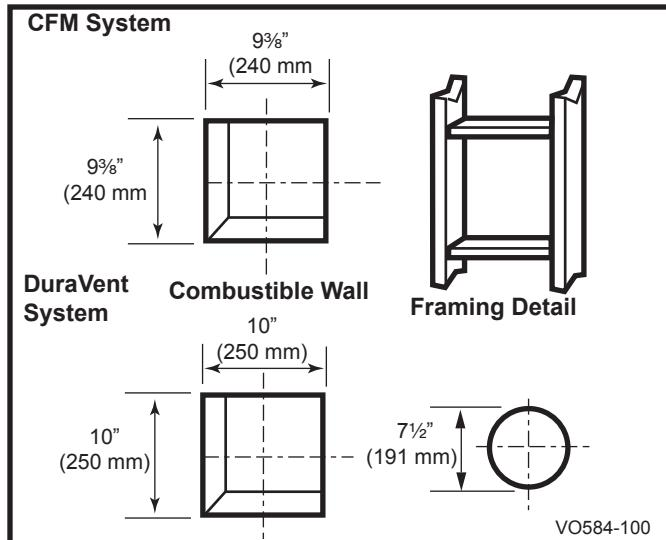

Fig. 22 Locate vent opening.
- Locate the vent opening on the wall. Refer to Figure 5, Page 6, to determine the opening centerline. It may be necessary to first position the stove and measure to find the hole location. Depending on whether the wall is made of combustible materials, cut the opening to the size shown in Figure 22. Combustible wall openings must be framed as shown in Figure 22.